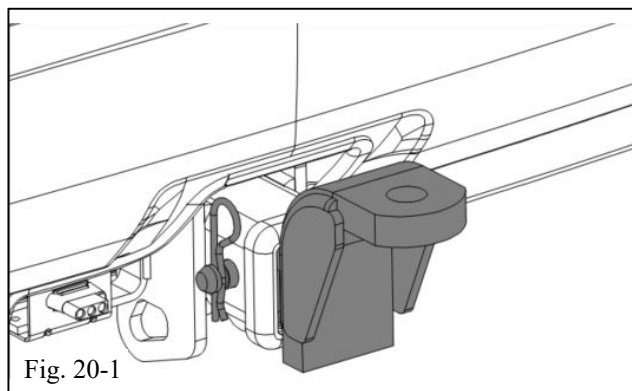

Fig. 20-1
- (a) Test fit and insert the Ball Mount (Item #2 in the Kit Contents table) into the Tow Hitch Receiver (Fig. 20-1).
- (b) Secure the Ball Mount with the Pin (Item #8 in the Kit Contents table) (Fig. 20-1).
- (c) Secure the Pin with the R-clip (Fig. 20-1).